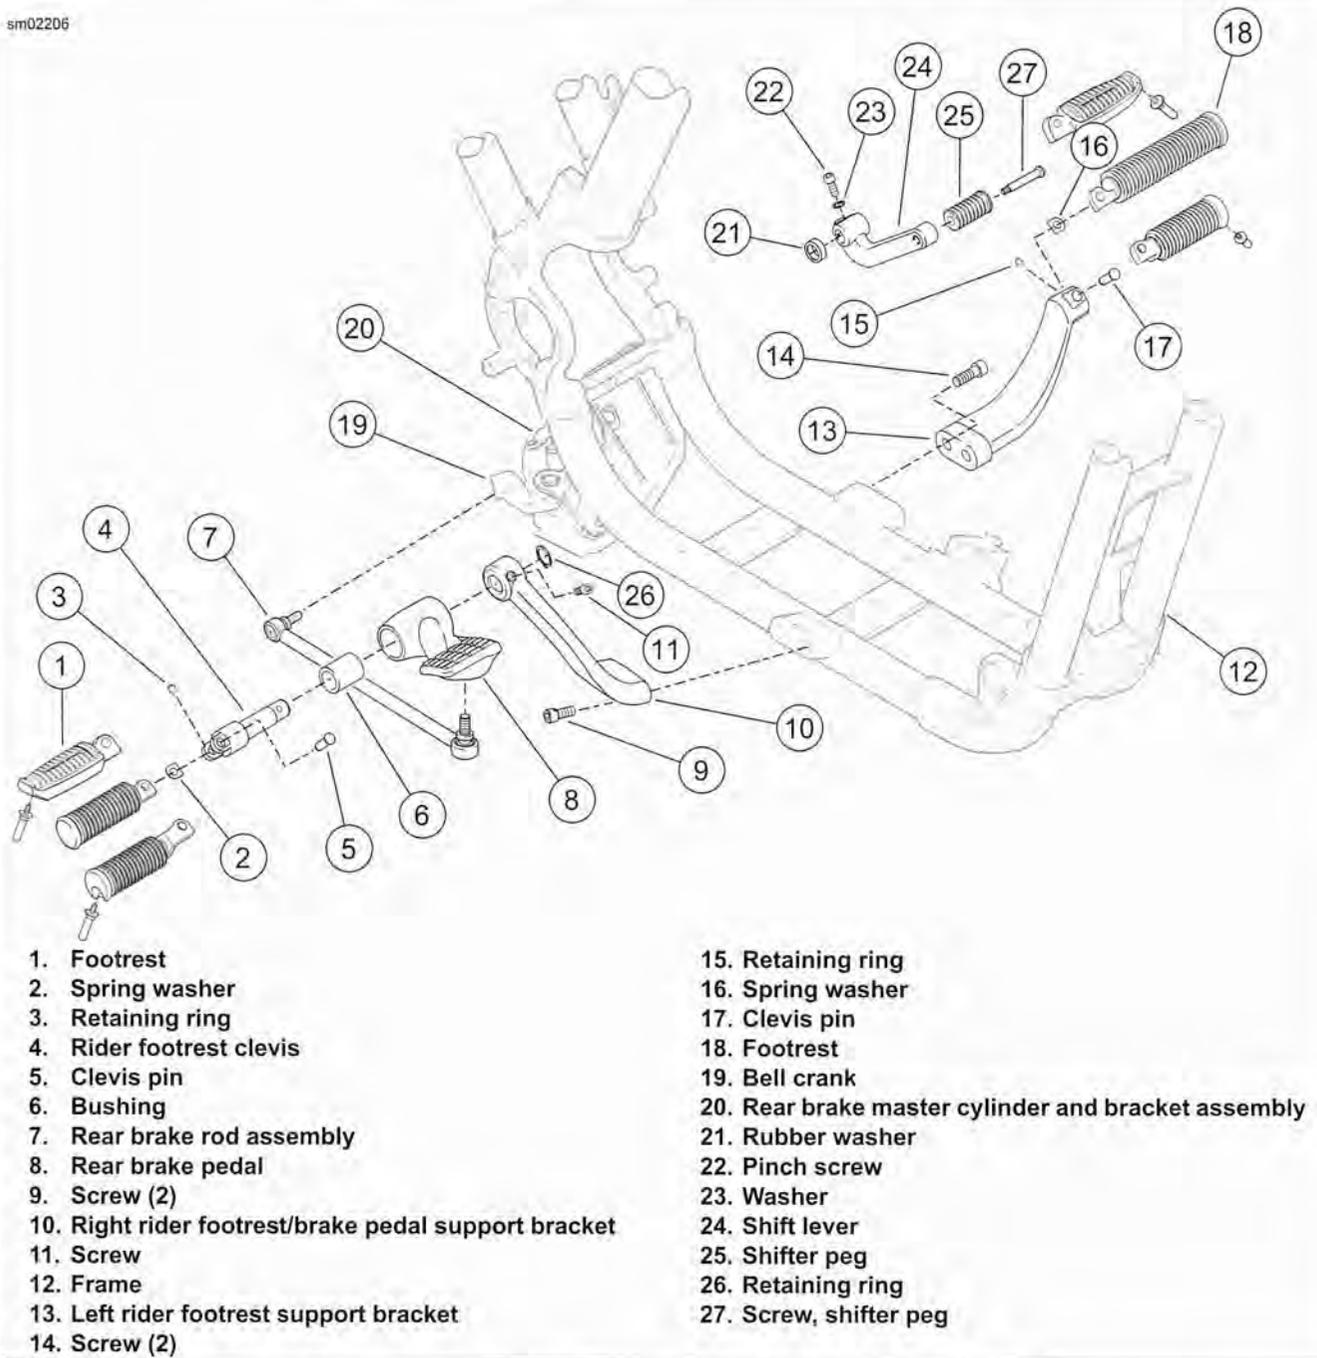

Figure 2-224. Mid-Mount Controls: Rider Footrests/Foot Controls
2. See Figure 2-224. Remove retaining ring (3), clevis pin (5), footrest (1) and spring washer (2). Discard retaining ring.
3. Remove brake rod (7) from brake pedal (8) and master cylinder bell crank (19).
4. Remove retaining ring (26), screw (11) and clevis (4). Slide brake pedal (8) off clevis. Discard retaining ring.
5. Remove two screws (9) and right rider footrest/brake pedal support bracket (10) from frame (12).
1. See Figure 2-224. Mount right rider footrest/brake pedal support bracket (10) to frame (12) with two screws (9). Tighten to 45-50 ft-lbs (61-68 Nm).
2. Slide brake pedal (8) onto clevis (4). Mount clevis on right rider footrest/brake pedal support bracket. Line up hole in clevis with hole in support bracket. Secure with screw (11). Tighten to 13-17 ft-lbs (17.6-23.0 Nm). Install **new** retaining ring (26) on end of clevis.
3. Install footrest (1) on clevis with spring washer (2). Make sure spring washer is positioned inside clevis with the square edge toward the inside. Align holes and push clevis pin (5) from top down through hole in clevis. Secure with **new** retaining ring (3).
5. Thread one end of brake rod (7) into master cylinder bell crank (19). Tighten to 120-180 **in-lbs** (13.6-20.4 Nm).
1. See Figure 2-224. Remove retaining ring (15), clevis pin (17), footrest (18) and spring washer (16). Discard retaining ring.
2. Remove two screws (14) and left rider footrest support bracket (13) from frame (12).
3. Remove screw (27) and shifter peg (25).
4. Remove pinch screw (22) and washer (23). Remove shift lever assembly (24) and rubber washer (21).
1. See Figure 2-224. Install rubber washer (21) and shift lever (24) on transmission shift lever shaft. Secure with washer (23) and pinch screw (22). Tighten to 16-20 ft-lbs (21.7-27.1 Nm).
2. If re-using shifter peg screw (27), clean screw threads and apply one or two drops of LOCTITE THREADLOCKER 243 (blue) to threads.